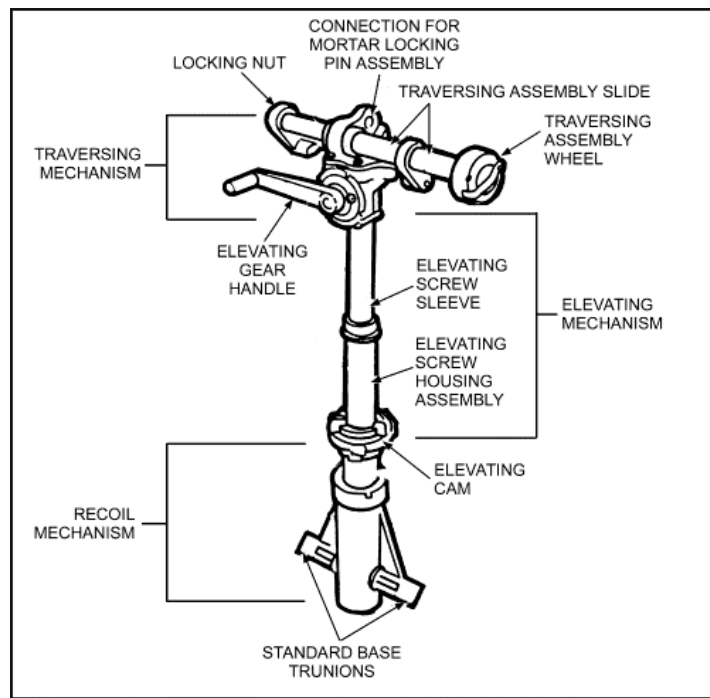
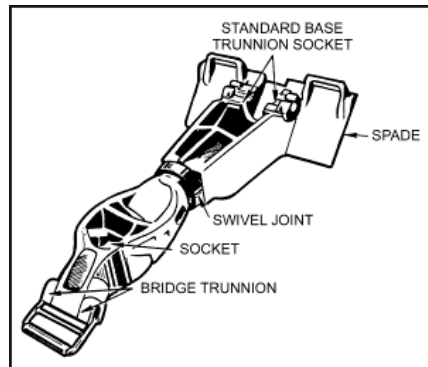

Figure 6-4. Standard assembly with elevating, traversing, and recoil mechanisms.
Figure 6-5. Bridge assembly.
- a. **Standard Assembly.** The standard assembly consisting of the elevating, traversing, and recoil mechanisms connects the cannon and bridge assembly or standard support on the turntable (Figure 6-4). It is held to the bridge assembly by two trunnions that fit into sockets on the bridge spade or standard support assembly. The connection for the mortar locking pin assembly on the standard assembly is fastened to the coupling and sight mount assembly by the mortar locking pin assembly. Both the elevating and traversing screws are enclosed.
- (1) The elevating gear handle, located in front of the mortar at the top of the standard assembly, is used to elevate or depress the mortar throughout the low or high ranges of elevation. An elevating screw housing assembly in the lower part of the standard assembly makes possible the two ranges of elevation. The desired high or low range is selected by using the elevating mechanism cam located just above the recoil mechanism on the standard assembly.
- (2) The elevating mechanism cam (Figure 6-4) locks the elevating screw housing assembly in its low or high range position. This assembly cannot be locked in any intermediate position.
- (3) The traversing mechanism (Figure 6-4) consists of an enclosed screw and bearing located at the top of the standard assembly. It is operated by turning the traversing crank on the left side of the mechanism.
(4) The recoil mechanism consists of a series of springs mounted in the lower section of the standard assembly. They are designed to ease the downward shock of firing and to return the mechanism to the prefiring position.
b. **Bridge Assembly.** The bridge assembly (Figure 6-5) consists of two pieces joined by a swivel joint.